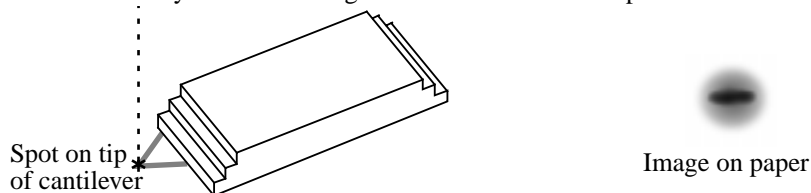

Figure 5.15. Alignment is complete when the laser spot is located on or near the end of the cantilever.
4. Align the laser beam with the end of the cantilever (figure 5.15).